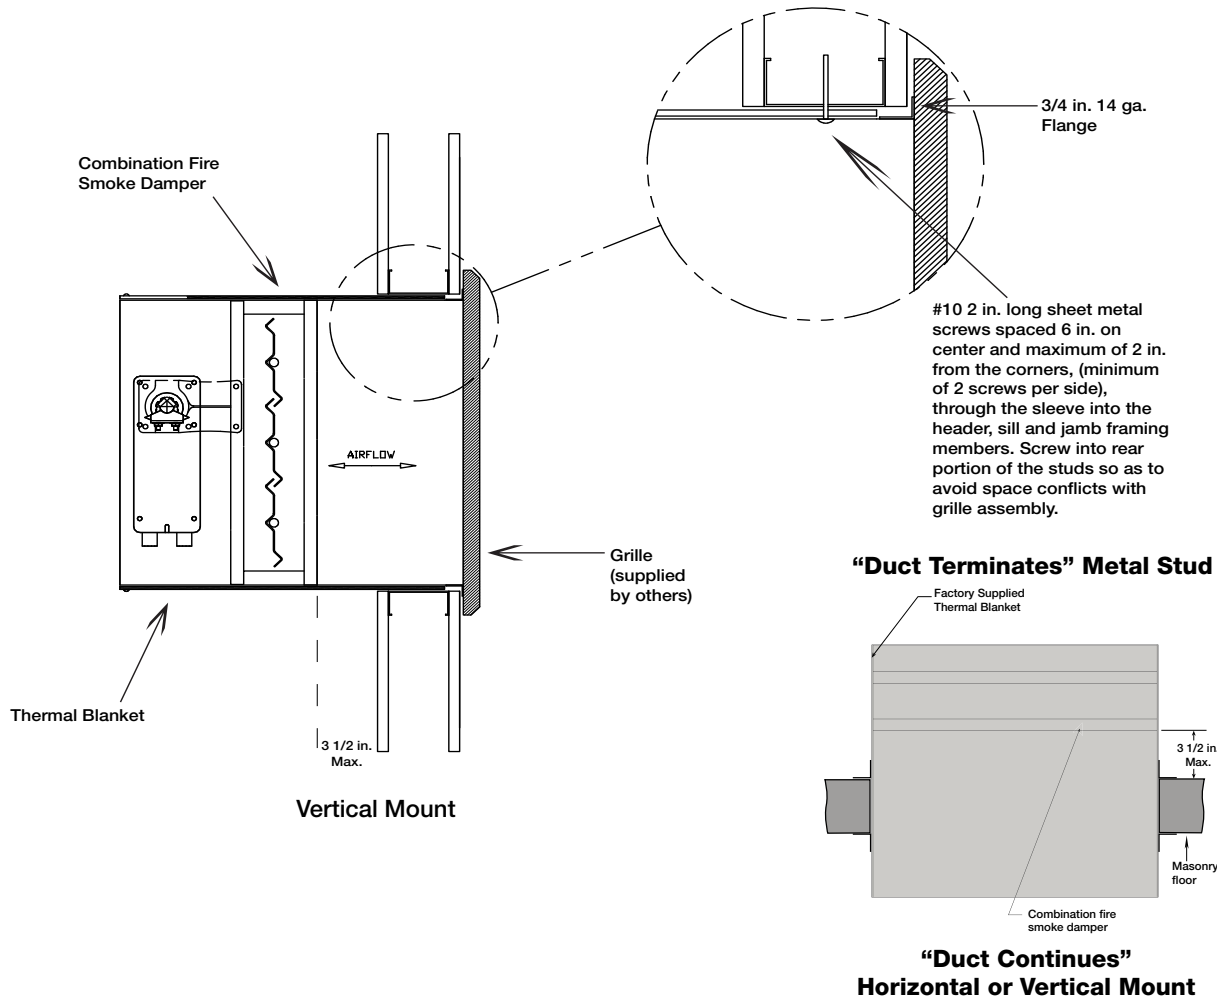

Figure 1: Installation configurations for Grille access combination fire smoke dampers.
Figure 1 shows two approved installations for combination fire smoke dampers: 1) "Through the grille access" and 2) installation in continuing duct. In grille-mount applications, the damper actuator can be accessed by removing the grille and the actuator compartment cover plate. To provide access to the damper actuator for continuing ductwork, refer to the requirements of NFPA 90A.
- Flange on front (grille end) of sleeve must be a minimum of 14 gauge (2mm) steel and have a 3/4 in. (19mm) minimum flange leg (refer to Figure 2). Using #10 (19mm) sheet metal screws, screw from inside of sleeve through the rear portion of the studs (as shown in Figure 1). Space screws a maximum of 6 in. (152mm) on center and a maximum of 2 in. (51mm) from the corners (minimum of 2 screws per side). No retaining angles are required on the side of wall opposite from the grille.